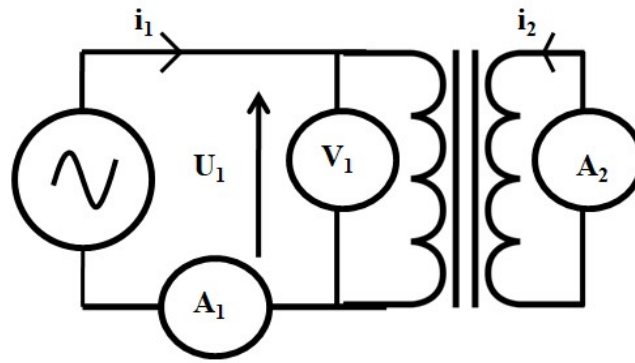

Figure 7.
- Reset the cursor of the autotransformer to zero. Then connect the amperemeter terminals directly with the ones of the second coil C_2 (see figure 7). The current i_2 circulating in the secondary circuit is called short-circuit current.